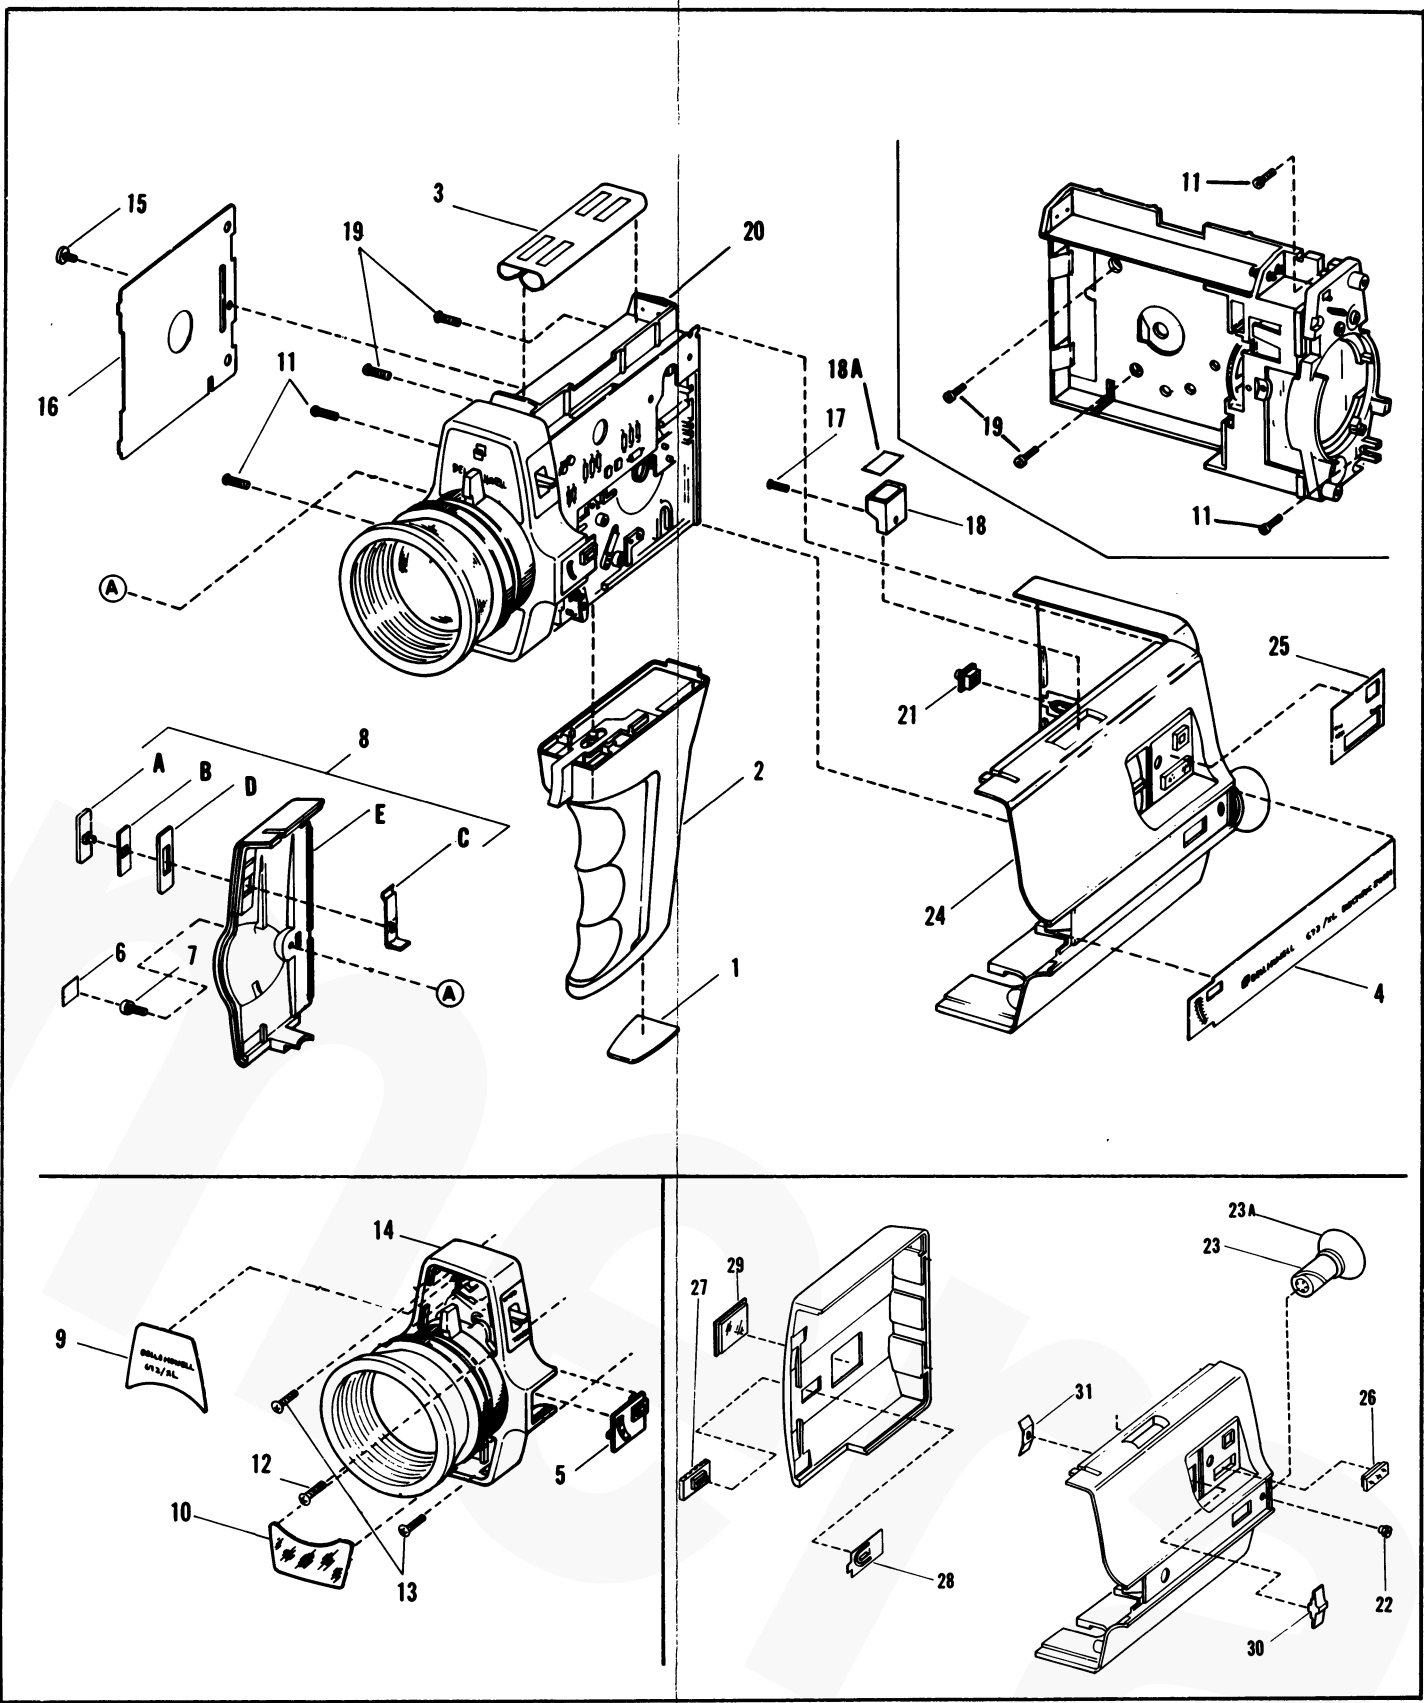

Figure 1. Camera Main Assembly
a. **Shuttle Tooth Centering.** Open the film compartment door and remove the right side cover (item 8, Figure 1). Hold the camera with the lens pointing down and place the shuttle tooth centering gage (Figure B) in the film channel of the aperture plate. The slot in the gage must be positioned over the slot in the aperture plate. Tilt the rear end of the camera to the left so that the heavier lower end of the gage tends to swing in toward the film compartment wall. Press the run button to run the camera. If the gage vibrates, the shuttle tooth is not centered in the shuttle slot and the complete aperture plate assembly (item 25, Figure 2) must be replaced.
b. Shuttle Tooth Protrusion. Remove right side cover (item 8, Figure 1) and rotate the shutter gear until the shuttle tooth is at its maximum protrusion through the slot in the aperture plate. Check the height of the shuttle tooth with the shuttle tooth penetration gage (Figure B). The shuttle tooth should clear the GO end of the gage but must not clear the NO GO end. If the shuttle tooth is too high or too low, replace the complete aperture plate assembly (item 25, Figure 2).